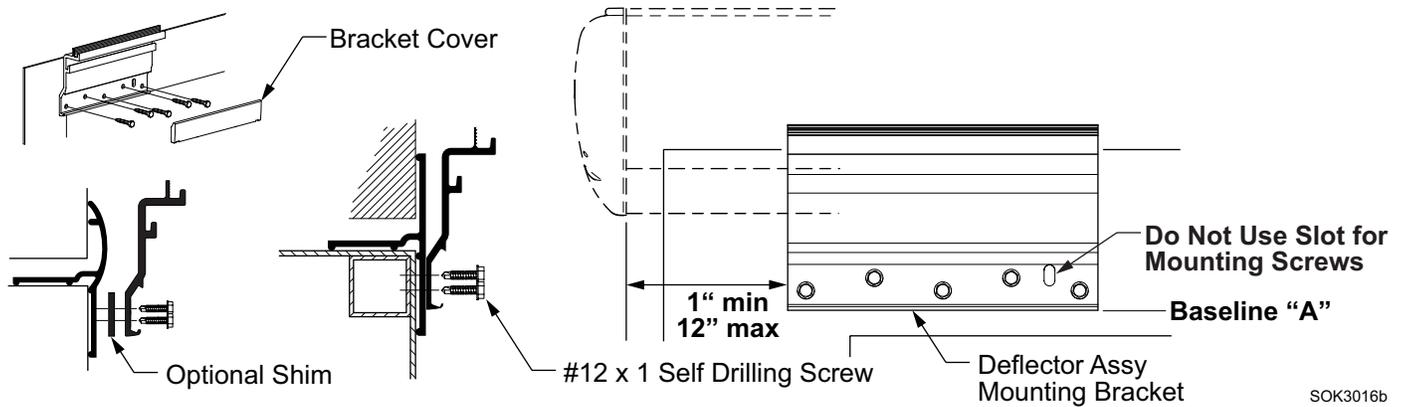

Figure 7. Setting the Deflector Brackets.
1. Position the deflector brackets on the room face using BASELINE A as shown in Figure 7.
- Position the bracket and optional shim (if used) and attach using five (5) #12 x 1 self-drilling screws.